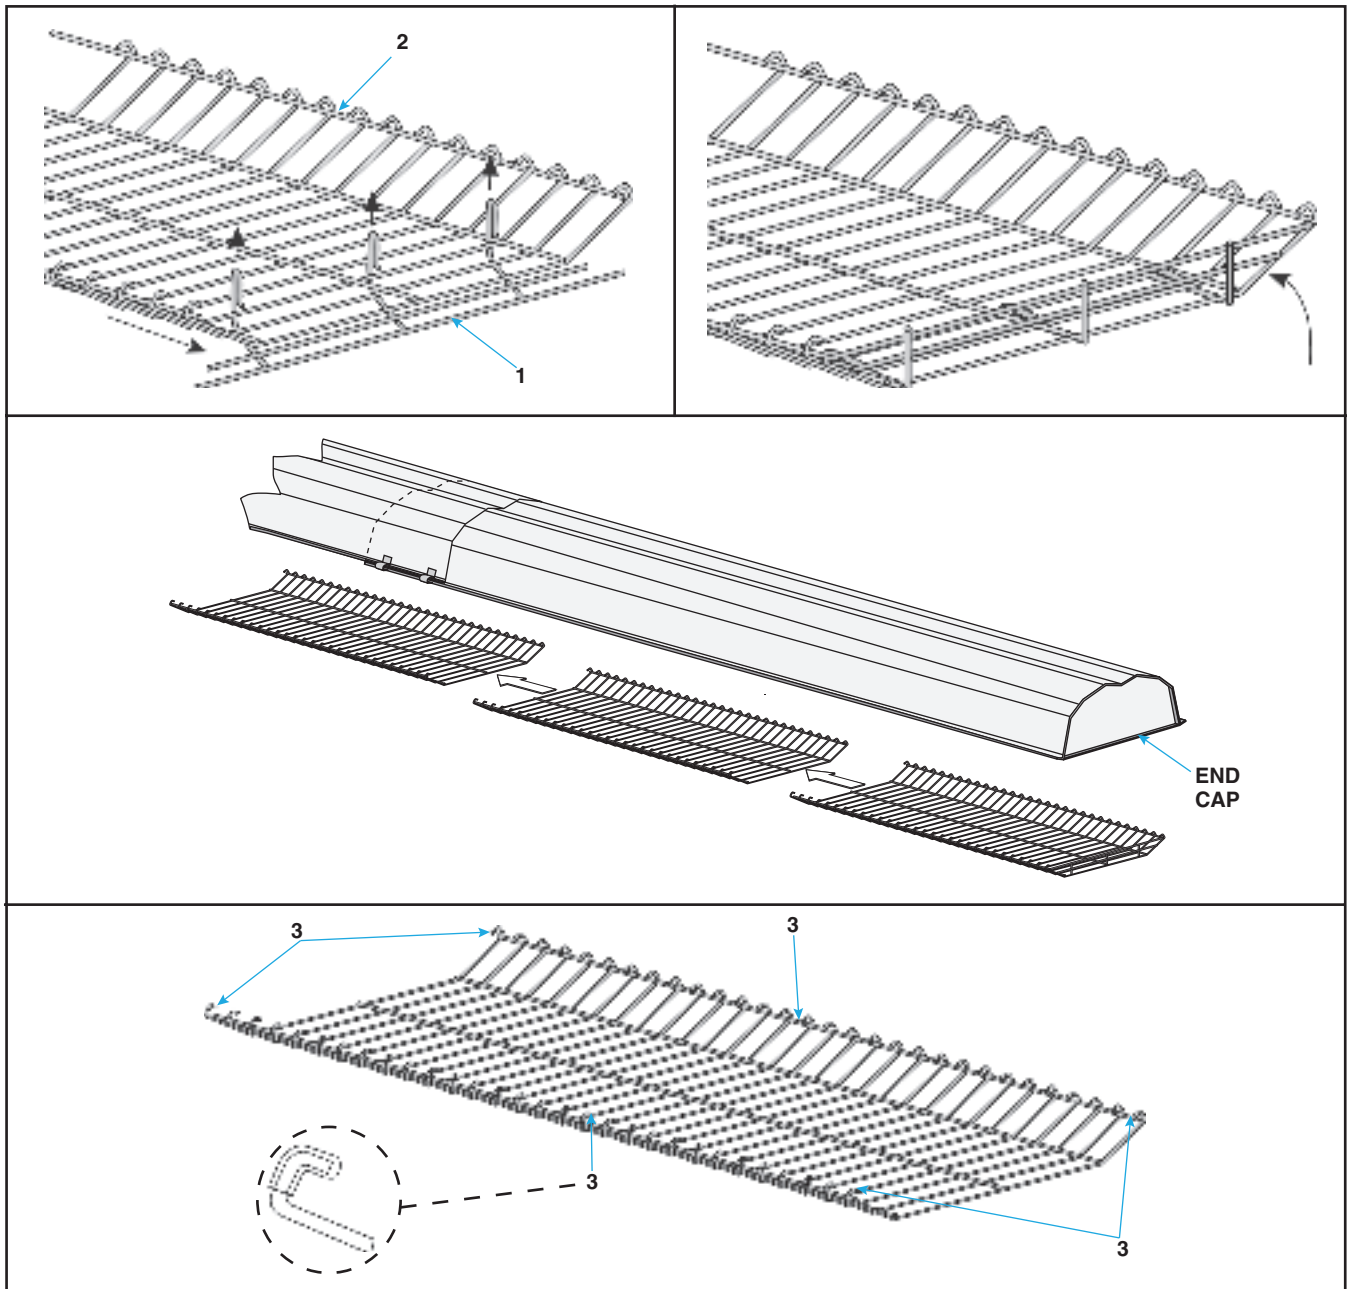

Figure 1. Protective Grille Kit Installation (Refer to Table 1)
1. Install protective grille's end section (1) on grille section (2) that will be installed at reflector's end cap as shown in Figure 1. Pull end section snug, and bend it up at 90-degree angle.
2. Position grille section (2) on bottom of reflector and secure grille to reflector using six silicone reflector clips (3) installed as shown in Figure 1.
3. Install remaining grille section(s) in accordance with step 2. Ensure that grille section with end section is installed on reflector with end cap as shown in Figure 1.